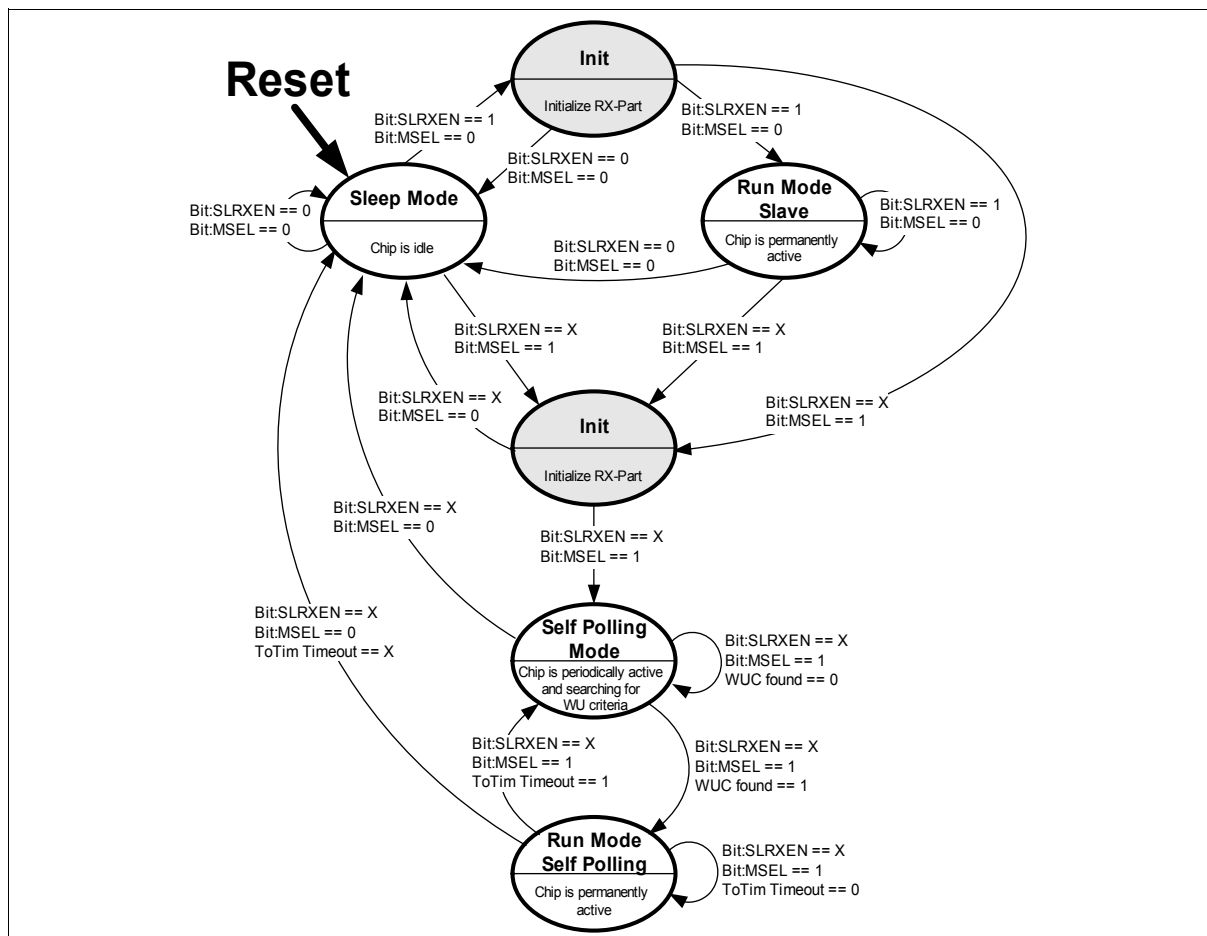

Figure 17 Global State Diagram
This state (item 12 in the state diagram Figure 17) is used for fast reconfiguration of the chip in Slave-Mode. This state can be reached after the Startup Sequencer and Initialization of the chip has been finished from any state from 3 to 11. To reconfigure the chip the SFR control bit HOLD must be set. After reconfiguration in this state the SFR control bit HOLD has to be cleared again. After leaving the HOLD state, the INIT state is entered and the receiver loads the new settings. Be aware that the time between changing the configuration and reinitialization of the chip must be at least 40 μ s. Take note that one SPI command for clearing the SFR control bit needs 24 bits or 20 μ s at the highest SPI data rate. The remaining 20 μ s must be guaranteed by the application.